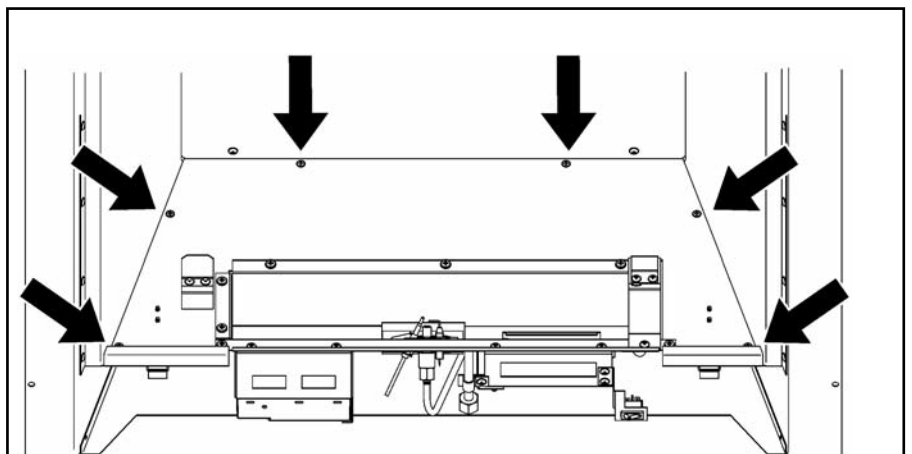

Figure 42. Burner removal
2. Detach the burner unit and support tray from the convection box by removing six screws (See figure 42). Lift the burner unit clear.